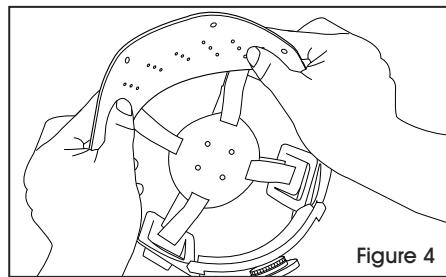

Figure 4
3. Pull the sweatband over the front of the suspension. Press so it conforms to the shape of the suspension. (See Figure 4)
(Voir Figure 4)